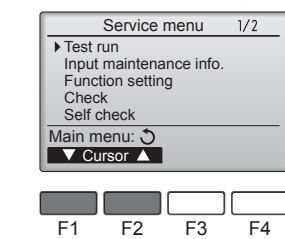

Fig. 6-3
③ Select "Test run" with the [F1] or [F2] button, and press the [SELECT] button. (Fig. 6-3)